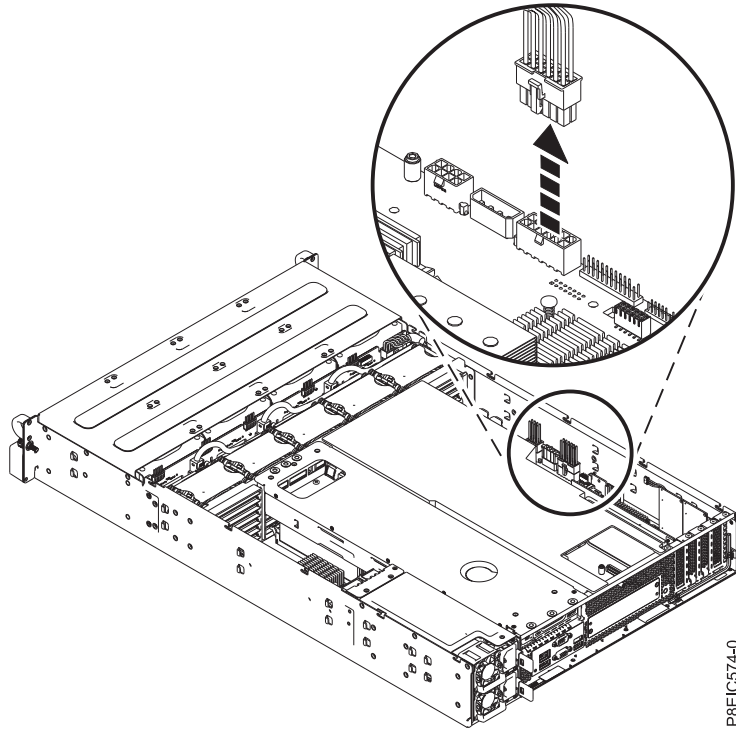

Figure 66. Disconnecting the front drives power cable
5. Remove the front drives power cable from the system backplane, as shown in Figure 66 on page 59. Using your thumb, press the release latch on the connector to remove the cable.